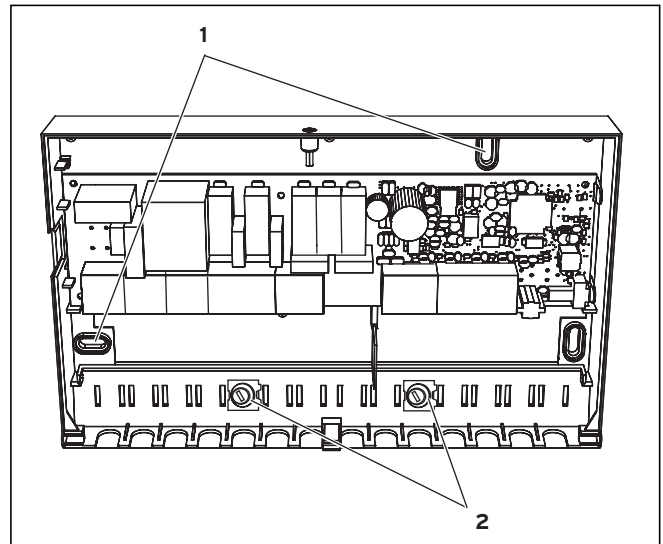

Fig. 5.2 Fitting the mixer module VR 61
- ⇒ Secure all the lines in the VR 61 with the included cable brackets (see Fig. 5.2).